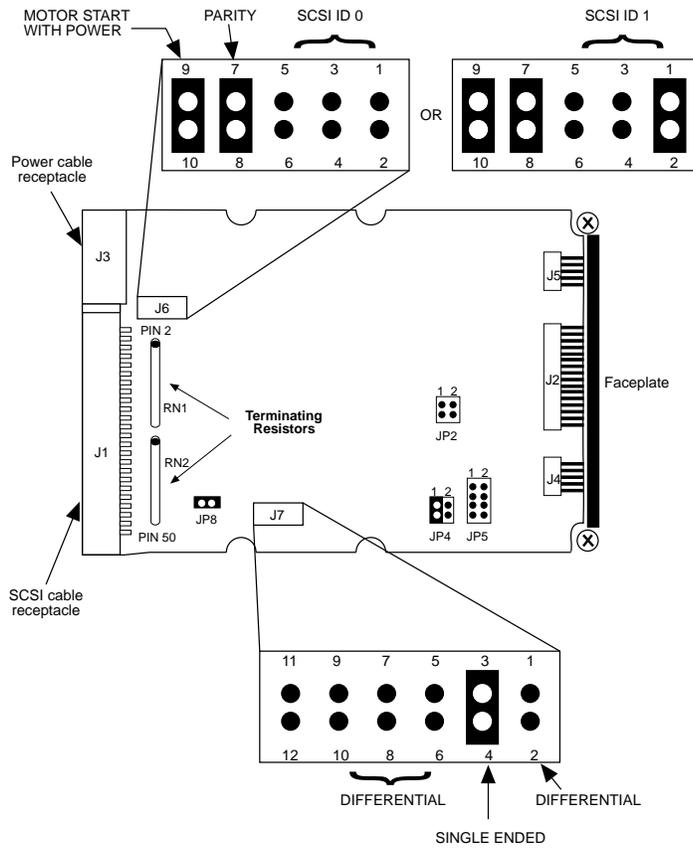

Figure 4-3. SCSI Hard Disk Drive
4. Verify that all jumpers are correctly positioned as shown in Figure 4-3.
5. Remove the two Phillips head screws holding the small black faceplate. Discard all 3 items. See Figure 4-3.
- Remove the terminating resistors, RN1 and RN2, using needle nose pliers. Discard the resistors. See Figure 4-3.